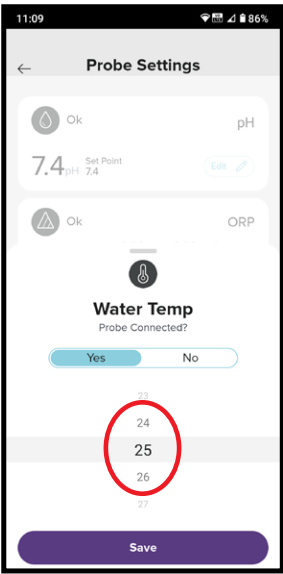

Figure 10.2
- Ensure that “Probe Connected?” is shown as “YES”, as indicated by blue highlight (refer Figure 10.2). Adjust to the pool set temperature by scrolling the set point up and down.